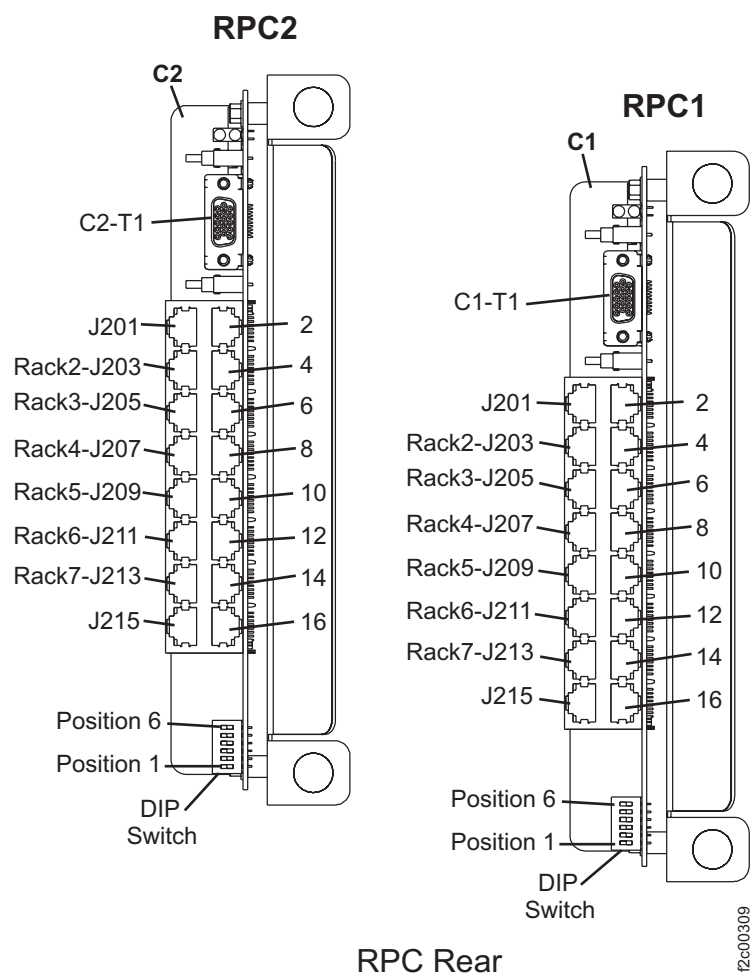

Figure 20. RPC card locations
6. Plug the cables into the RPC connector as indicated in Table 8 and Figure 20 on page 25.